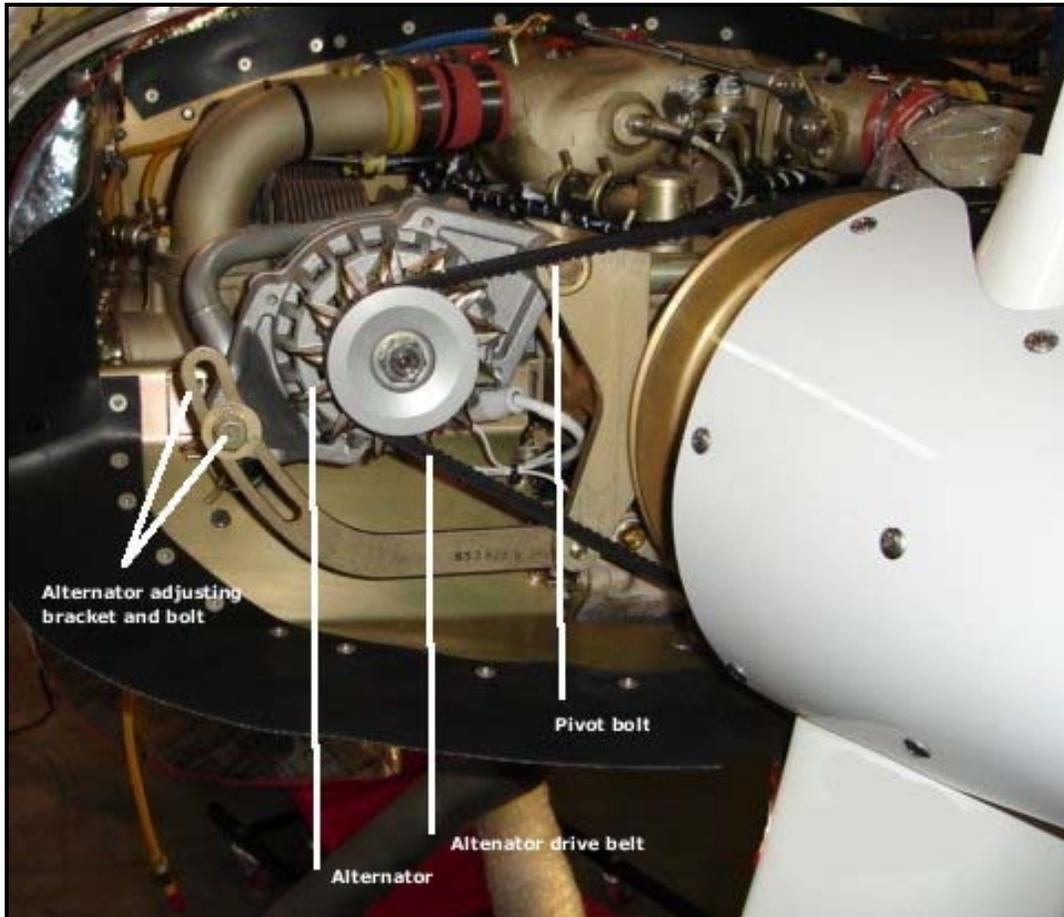

Figure 24-5 View of Front of Aircraft Engine
4. Loosen nuts on alternator mounting bracket and alternator belt tension adjustment bolts. See Figure 24-5 for the location of the alternator tensioning bolts.